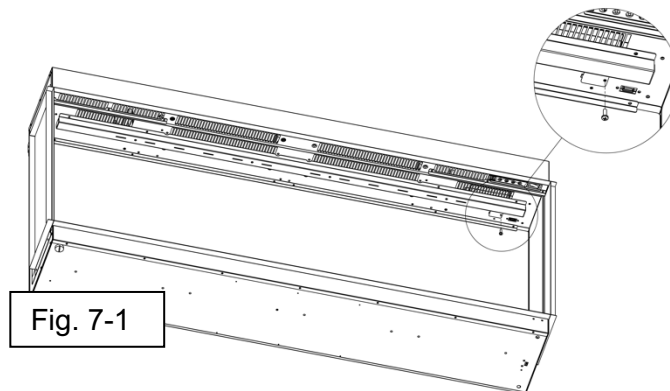

Fig. 7-1
- To access this micro switch, remove the single screw and pivot the access panel so that it can be temporarily removed. Flip the switch to the "Off" position and reattach the access panel (Fig.7-1).